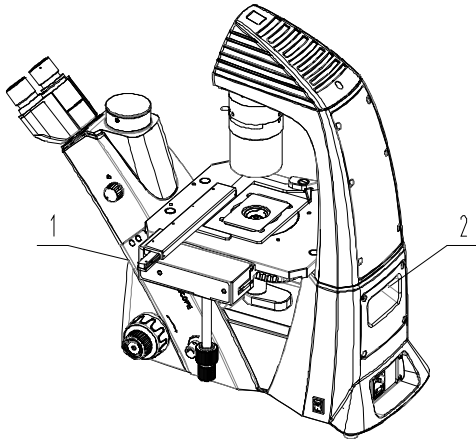

Fig.1 Carrying Diagram
- Following the **Fig.1** step to move the instrument, make sure the sample is taken away. Use one hand holding ① position, the other hand holding ② position.
- d. Please follow Fig.1 to carry microscope.